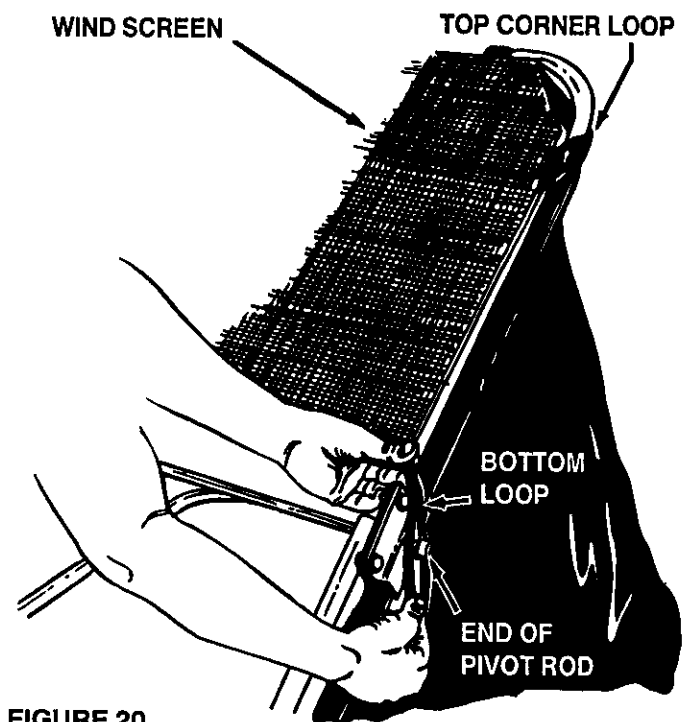

FIGURE 20
- Assemble the wind screen to the hopper bag frame by hooking the bag's top corner loops over the upper hopper tube and then pulling the bag's bottom loops down over the ends of the pivot rod. See figure 20.